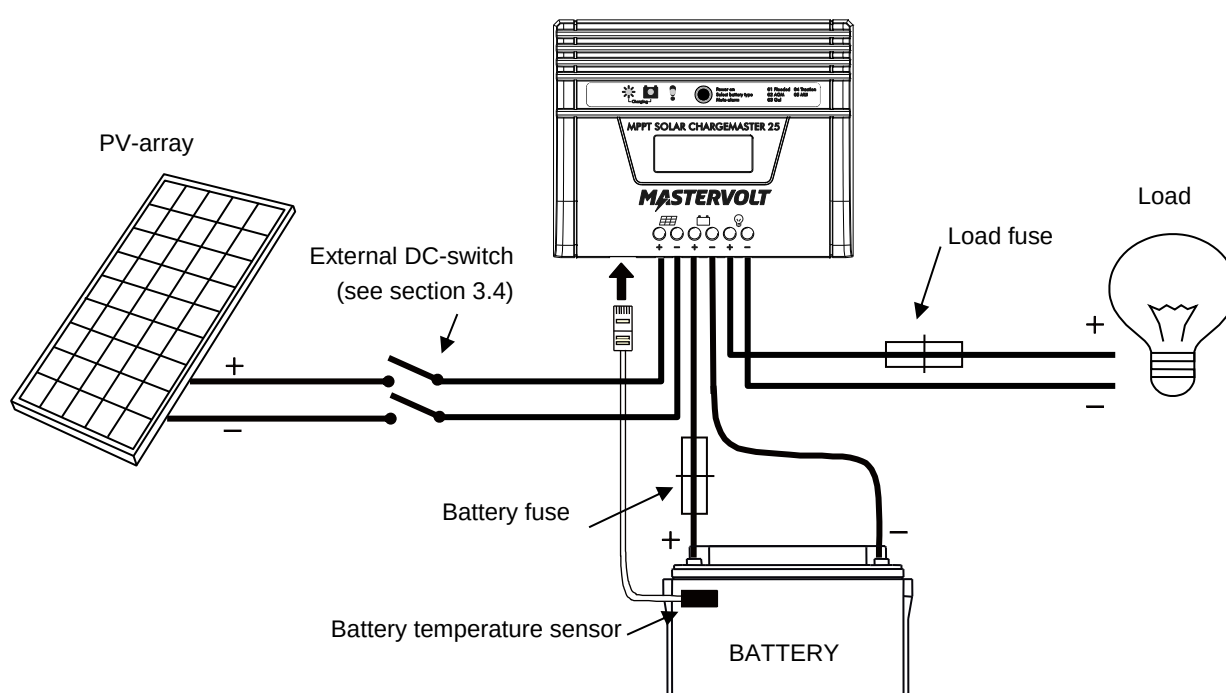

Figure 6: Load connected to the Load output on the Solar ChargeMaster
See Figure 6 for a typical installation diagram. The Load output is provided with a protection circuit that switches off the connected load automatically in case of overload or if the battery voltage is too low. This kind of installation is typically used when the PV-modules are the only source of electrical power to charge the battery.
- 7 Check all wiring: positive to +, negative to -. See also Figures 6 and 7 for wiring examples. If OK, continue with section 4.8 for commissioning of the Solar ChargeMaster.